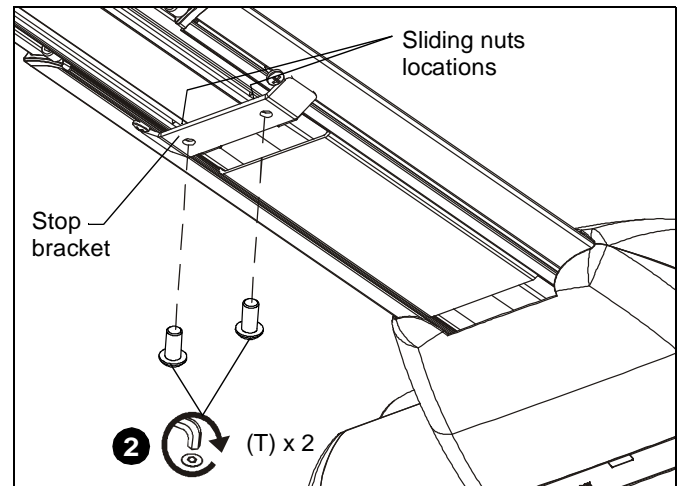

Figure 47
2. Install two 1/4-20 x 1/2" button head security screws (T) through holes in stop bracket and into holes in sliding nuts. (See Figure 47)